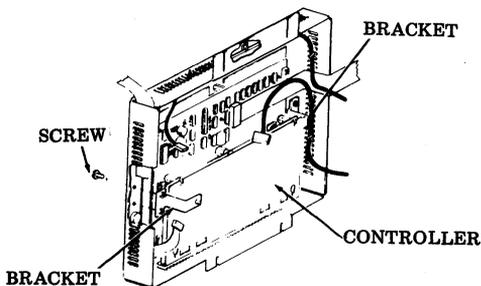

Fig. 18—Removal of Controller
- (d) Remove four screws securing the two brackets that hold the controller in place (Fig. 18).